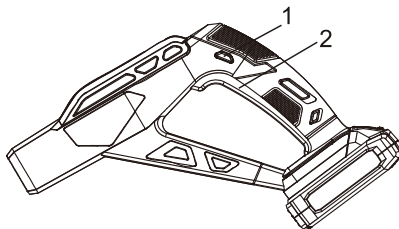

Fig. 13
1. Press the lock-off switch (1) (Fig.13).
2. While continuing to press the lock-off switch, squeeze the trigger switch (2).